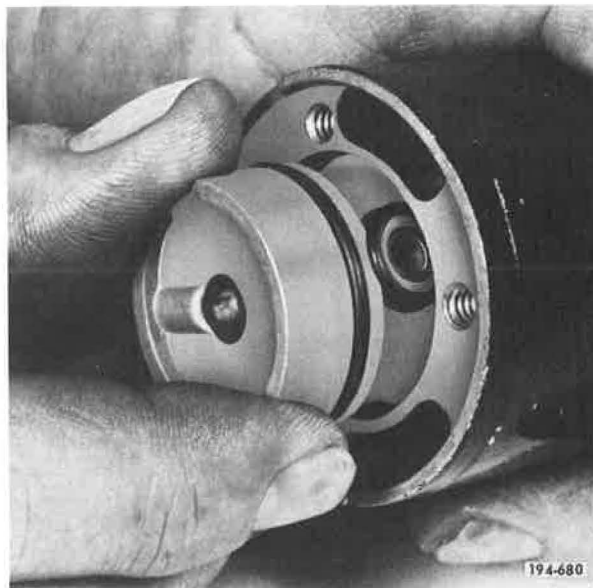

Figure 5-376. Removing Rotor
8. Remove rotor from valve body. See Figure 5-376.